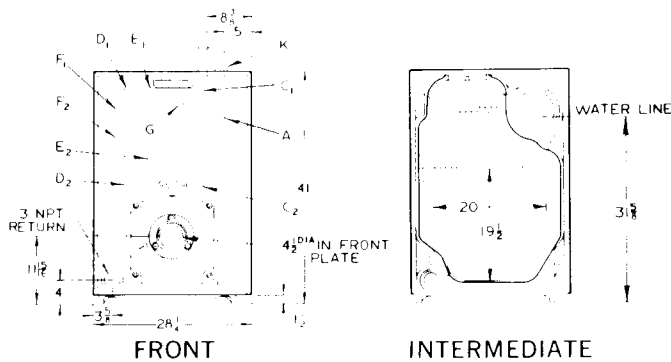

FIGURE 5
2. Install a drain cock (not supplied) in the 3/4" drain tapping (size to ASME Code requirements). Refer to the CONTROL TAPPING TABLE and FIGURE 5.
5. Plug all remaining boiler tappings, including the returns. Refer to the CONTROL TAPPING TABLE and FIGURE 5.
8. Drain the boiler and remove plugs from those tappings which will be used. Refer to the CONTROL TAPPING TABLE and FIGURE 5.